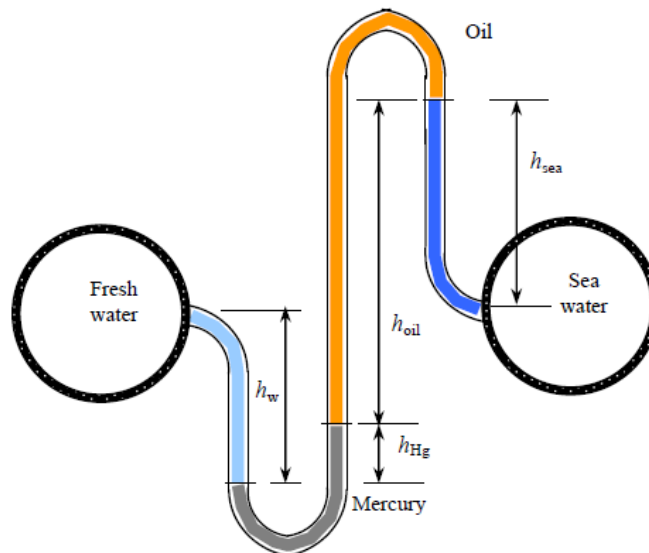

Figure Q1
- (b) Two parallel pipes carrying freshwater and seawater are connected to each other by a double U-tube differential manometer, as shown in **Figure Q1**,